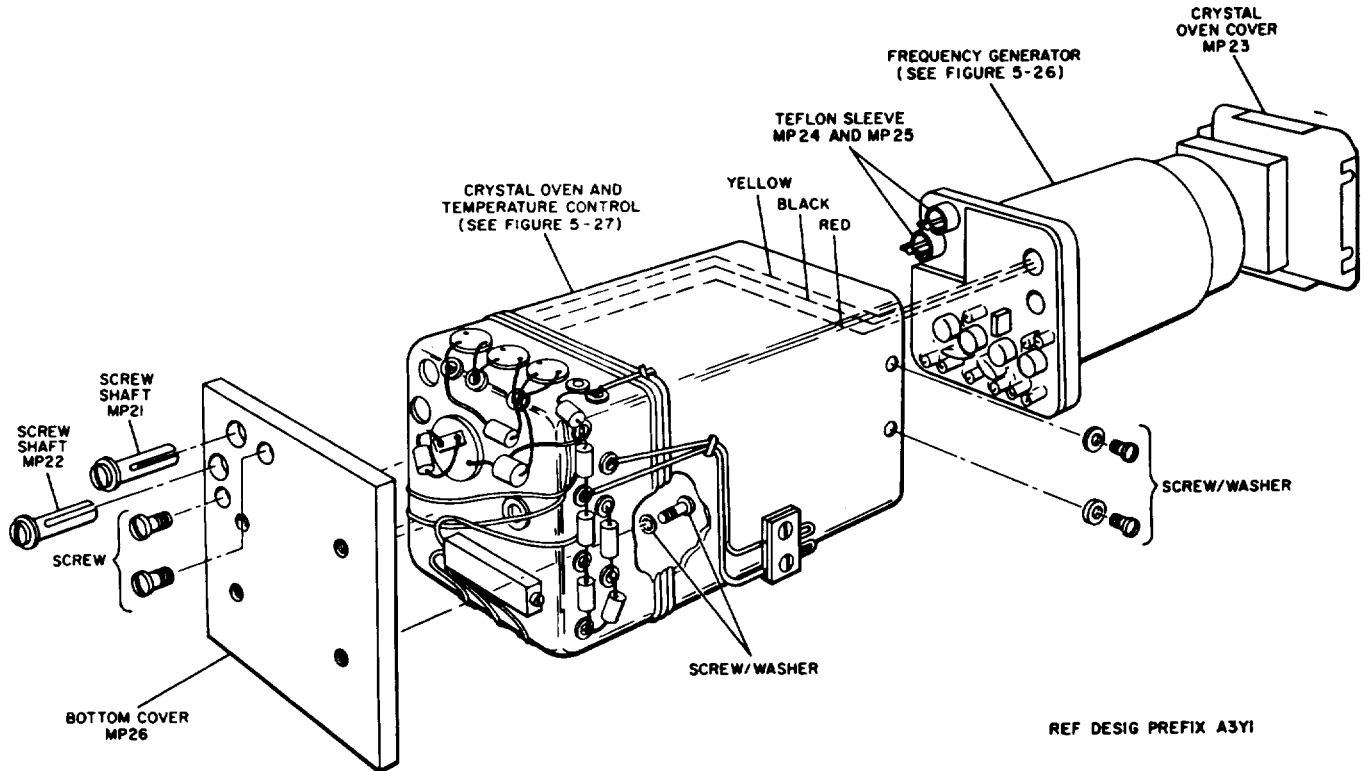

Figure 5-25. Disassembly of Crystal Oven (OVENAIRE)
(5) Remove and save the two screw-shafts (A3Y1MP21 and A3Y1MP22) and locking screws (figure 5-25).
(6) Unsolder the black lead from stud terminal A3Y1E18.
(7) Remove and save the eight screws and nuts that secure the crystal-oven cover A3Y1MP23 and remove the crystal-oven cover and crystal pad.
(8) Remove and save the three screws and washers that secure the frequency generator to the crystal oven; then slide the frequency generator out of the crystal oven.
(9) Remove the two screws and six washers that secure printed circuit board A3Y1E1 to the panel A3Y1MP6. Ail test points on the printed circuit board are now accessible, including test points J and K which are located on the foil side.
(10) Remove the four screws and washers that secure the bottom cover A3Y1MP26 to the crystal oven; then remove the bottom cover. Parts mounted on the bottom of the crystal oven are now accessible.
(11) To reassemble the 1-me oscillator, perform the procedure of steps (1) through (10) in a reverse order.